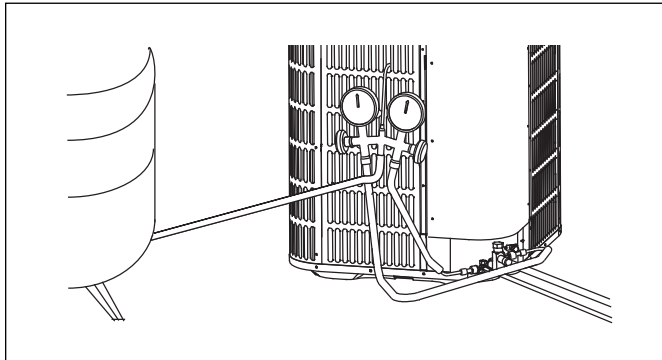

Figure 37
- ▶ Connect gauges to refrigerant bottle and unit as illustrated (Fig.37).